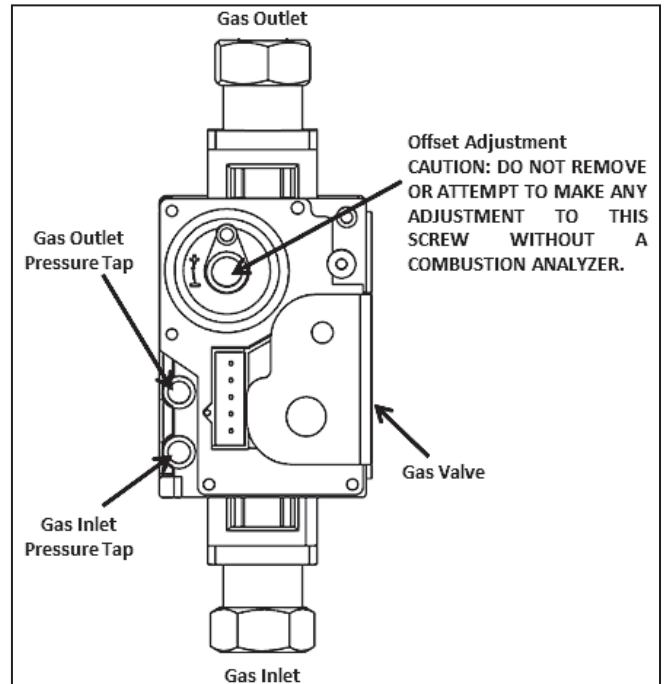

Figure 39 – Gas Valve Detail
NOTE: Refer to Figure 39 when adjusting gas pressure. Loosen the screw before checking the gas inlet pressure.
3. Loosen the gas inlet pressure tap screw three turns with a screwdriver. Connect the manometer to the inlet gas pressure port. See Figure 39.